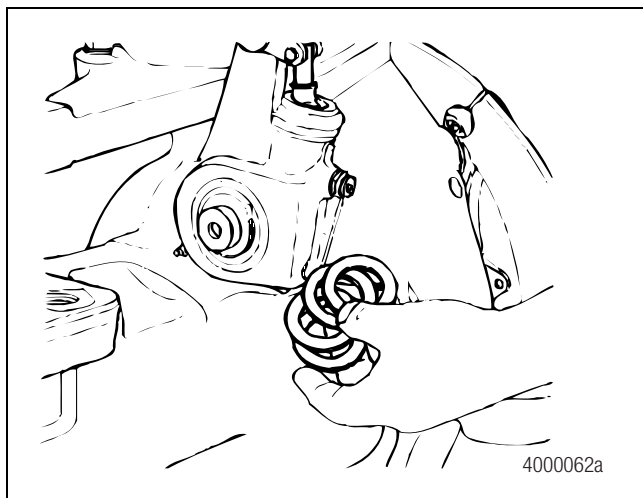
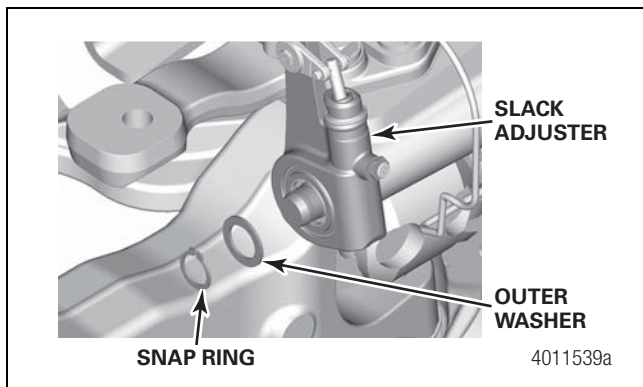

Figure 7.27
Figure 7.28
3. Install the slack adjuster washers at the adjuster end of the camshaft. Figure 7.27 and Figure 7.28. Use as many washers as required to keep slack end play at 0.060-inch (1.5 mm) maximum.